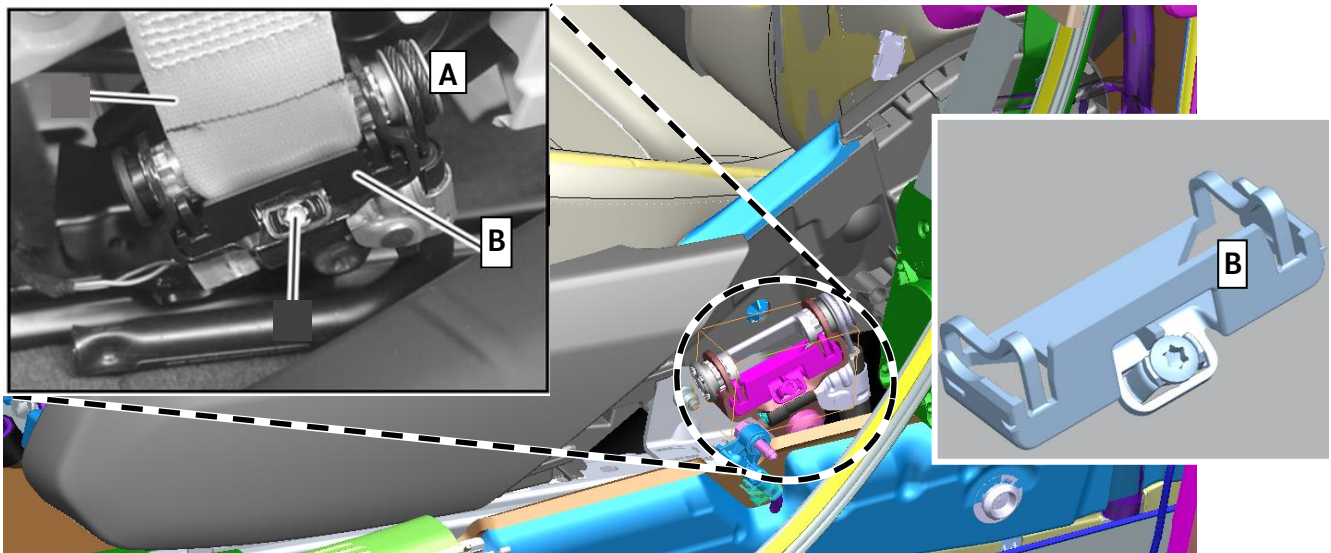

Figure 2
2. Check seat belt end-fitting (**Figure 2, A**) for correct installation.
i It is essential that the seat belt tensioner cover (**Figure 2, B**) is installed.
i The seat belt tensioner cover (**Figure 2, B**) could be missing from the vehicle.
- a. If the seat belt is not connected to the seat belt end-fitting tensioner (**Figure 2, A**) and/or the seat belt tensioner cover (**Figure 2, B**) is **not** installed: Carry out **Work Procedure**.
1. Correctly install seat belt end-fitting (**Figure 2, A**) and retrofit seat belt tensioner cover (**Figure 2, B**), if necessary.